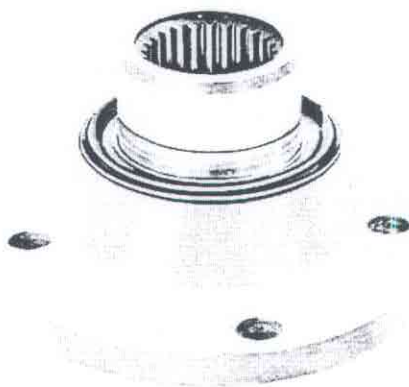

Fig 46-152 Flange seal
13. Fit a new seal on the flange, Fig. 46-152. Grease the sealing lip. Press the flange onto the shaft with 2267, Fig. 46-153.